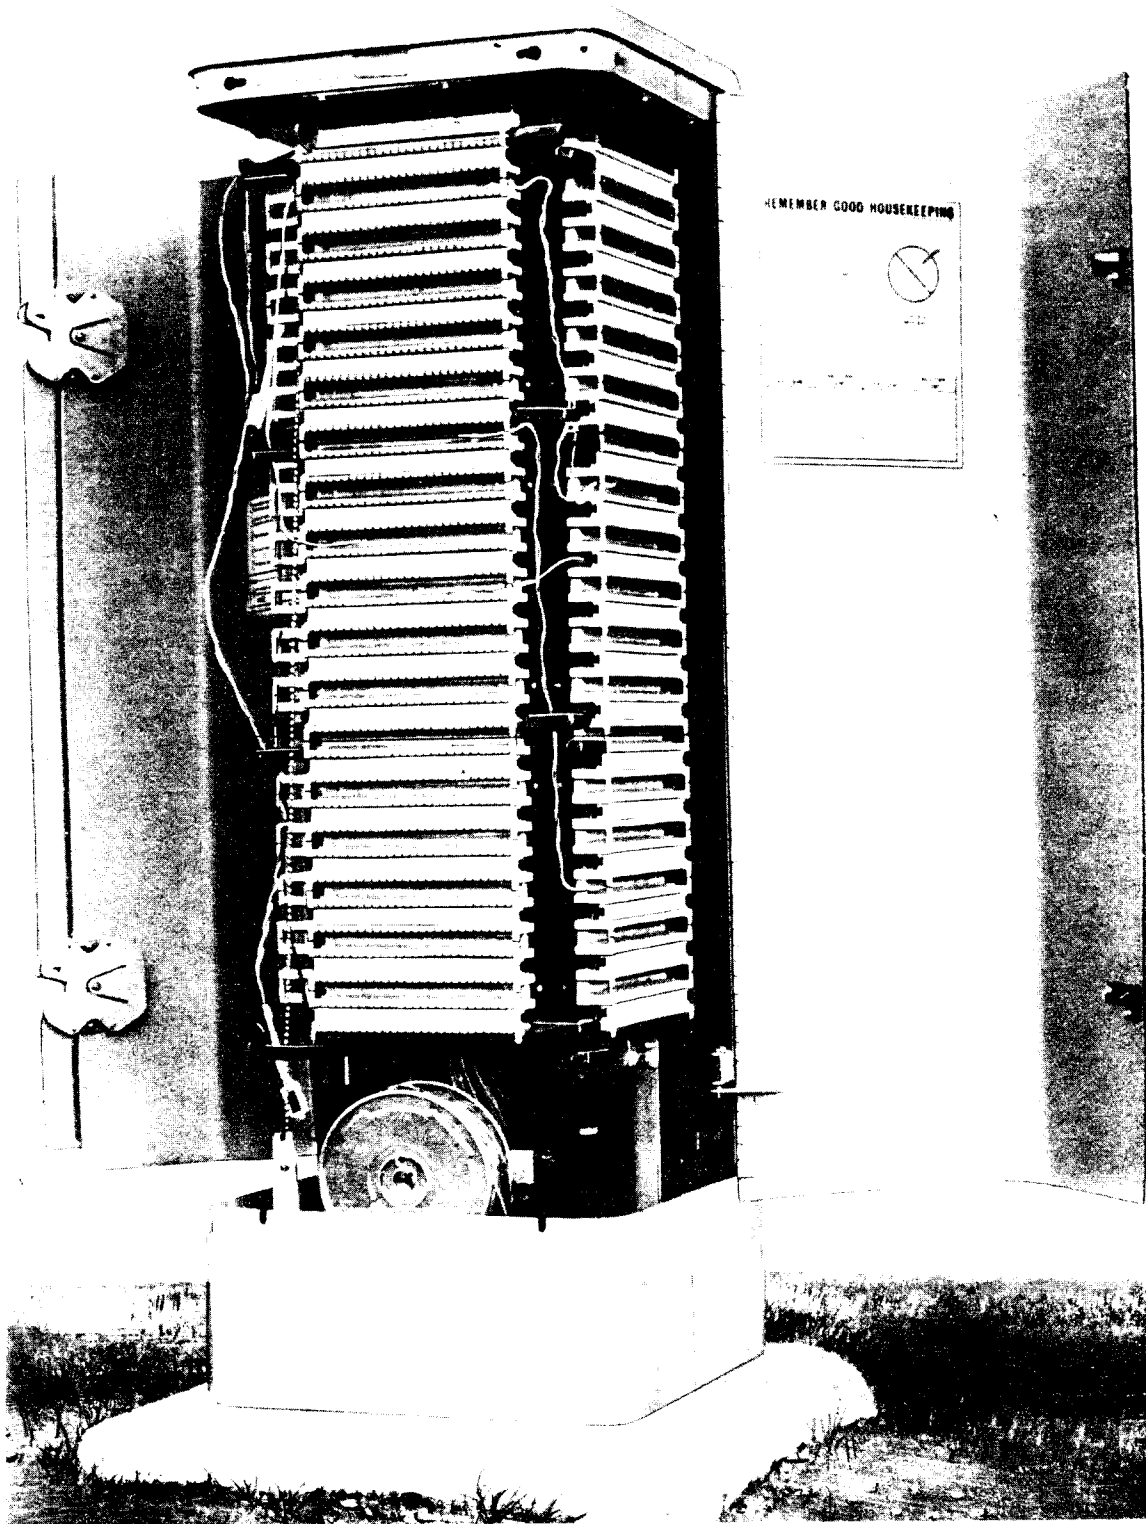

Fig. 9—Serving Area Interface AT-8630 with Several Cross-Connecting Wire Runs
3.06 An interface with several cross-connecting wires installed is shown in Fig. 9 and 10.